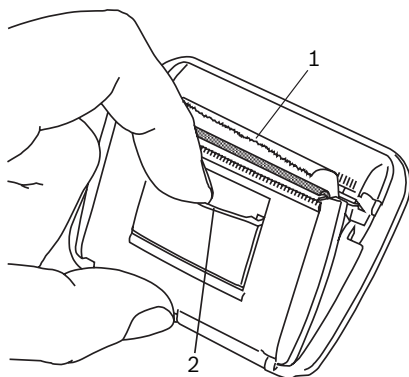

Figure 1-7. Replace Print Paper
1. Remove the cover on the printer by pulling out on the tab (2) as shown in Figure 1-7.
4. Assemble the cover onto the printer with the leading edge of the paper over the roller (1).